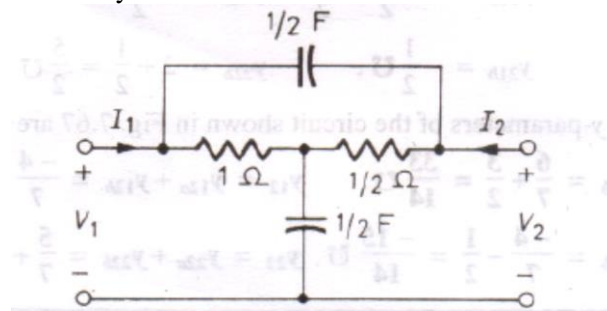

Fig. 7.72
4. For the network shown in Fig. 7.72 find the transmission (ABCD) parameters. Find whether the network is reciprocal and symmetrical.